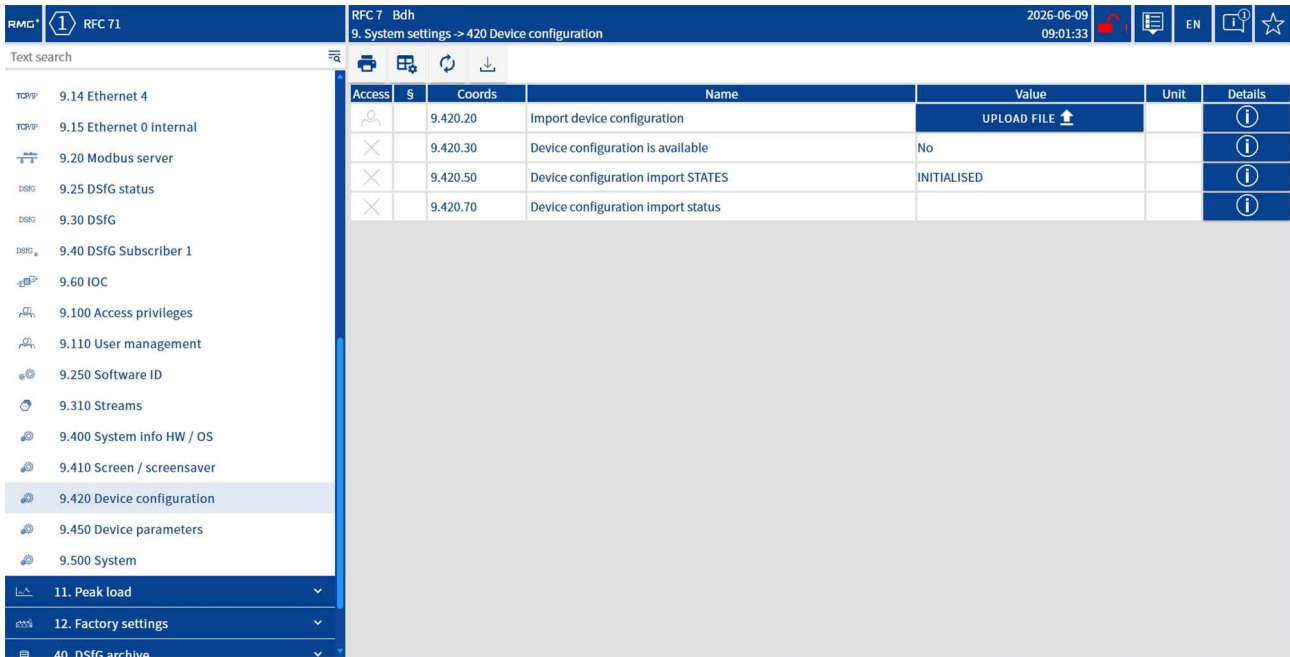

Fig. 116: Menu page 9.420 Device configuration
- ▶ Click on the **UPLOAD FILE** button (fig. 116, no. 2).